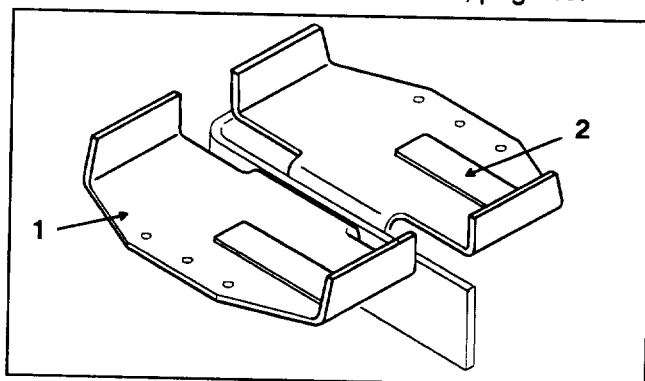

Figure 13
1. Mount battery holders to left rear corner or cutting unit carrier frame with (2) 3/8-16 x 1-3/4" lg. capscrews and locknuts (Fig. 13).
2. Peel off backing from battery pads and affix pads to battery holder, positioning as shown in Fig. 13.